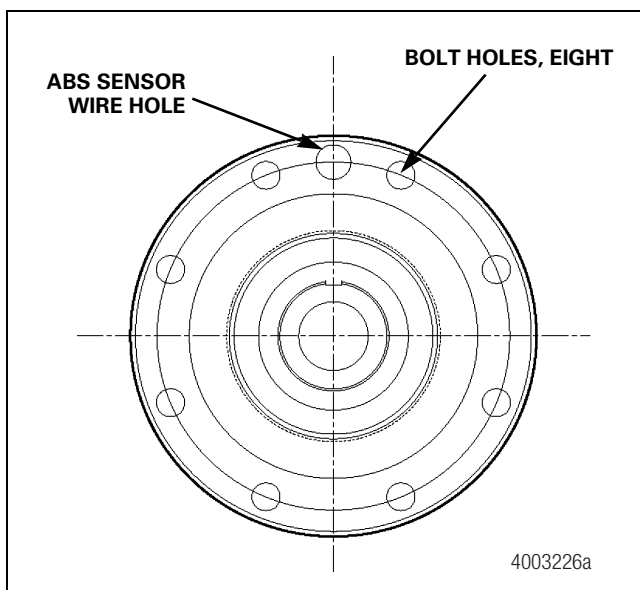

Figure 6.24
- **For a nine-hole flange:** Fasten the brake by installing the correct 5/8-inch (15.875 mm) diameter fasteners through the eight 0.656-inch (17 mm) holes. Tighten the fasteners to 180-230 lb-ft (244-312 N•m). Figure 6.24. 🔧